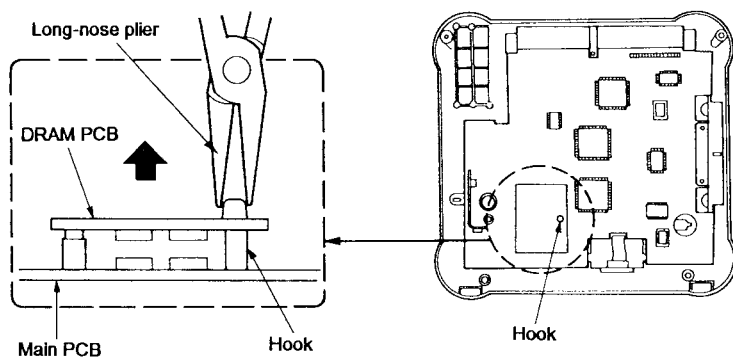

Figure 10
- (5) Unhook the hook, then raise the DRAM PCB as shown in Figure 10.